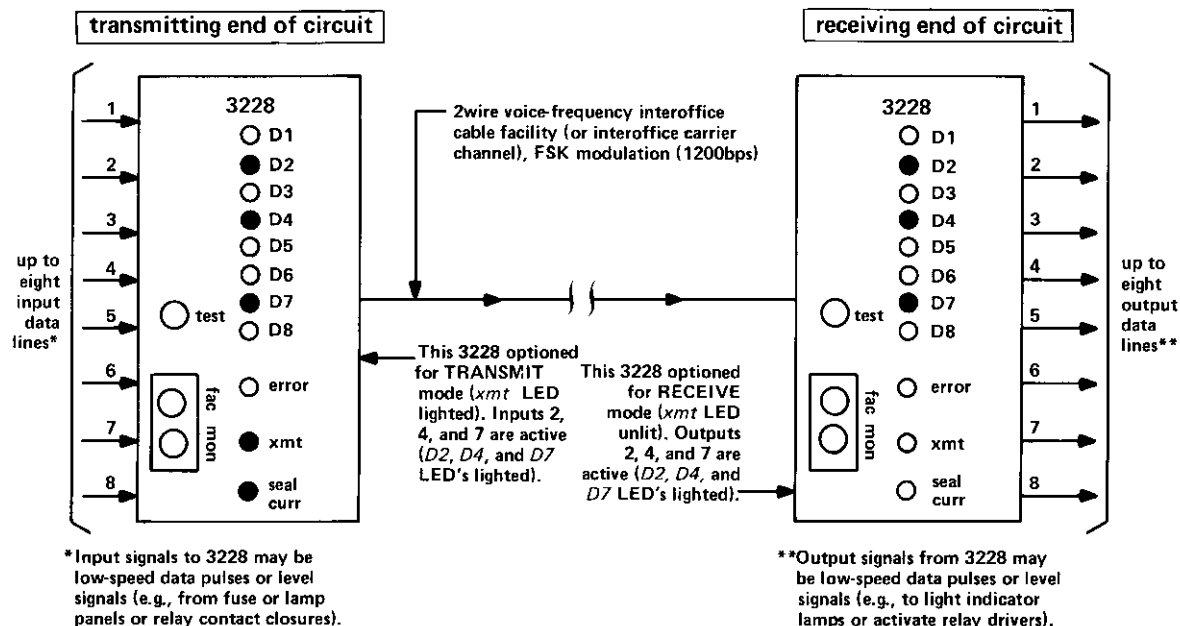

figure 2. Transmit and receive modes of 3228
2.01 The 3228 Data Set Transmit/Receive module is designed to serve up to eight independent data channels in applications where low-speed data pulses and/or level information is transmitted over a 2wire voice-frequency transmission facility. A unidirectional data set, the 3228 can be conditioned via switch option to serve either data-transmit or data-receive applications. (Bidirectional data applications therefore require four 3228's, two at each end of the circuit. One 3228 at each end must be optioned for the transmit mode, the other for the receive mode.) The 3228 can accommodate data-transfer rates up to 30 baud and uses an FSK data transmission format compatible with the Bell System 202 FSK format. Figure 2 illustrates the transmit and receive operational modes of the 3228.